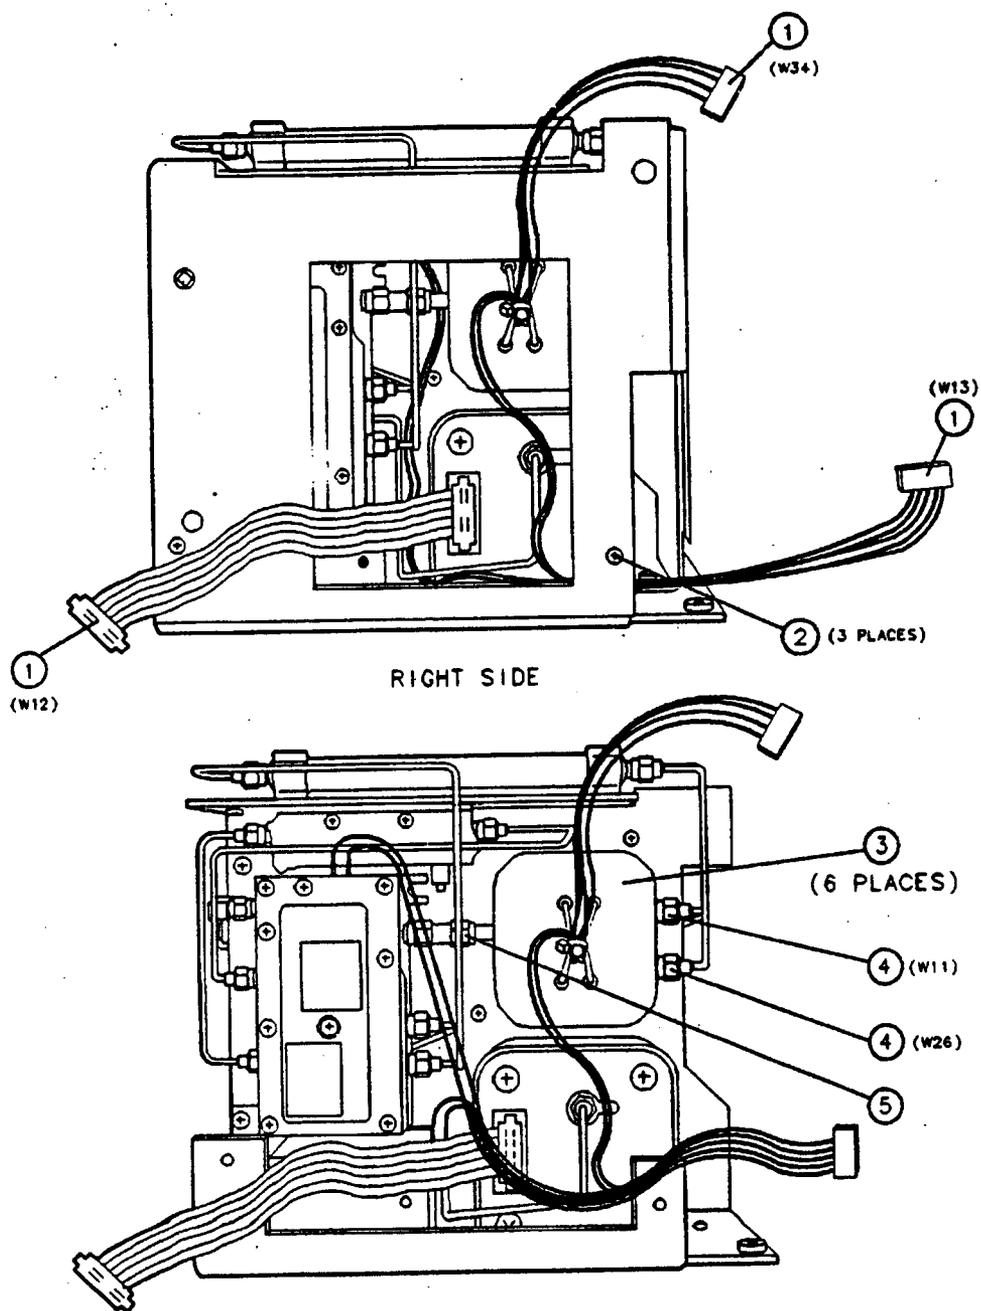

Figure 3-15. A3A2 Switched YTF Replacement
4. Note the cable dress of W12, W13, and W34 (1) that pass through the opening in the “D” bracket. See Figure 3-15. (This information is used later, during the YTF replacement procedure.)
2. Position the YTF and connect the A3A2J2 connector to the SMA adapter (5) without tightening. See Figure 3-15.
6. Tighten the SMA connector at A3A2J2 (5) to 10 inch-pounds using a 5/16 inch torque wrench.
7. Reconnect the W11 cable to A3A2J1 (4) and the W26 cable to A3A2J3 (4).
8. Replace the W13 and W34 wire harnesses (3) on the YTF using needle-nose pliers. Push each wire connector onto its recessed connector pin without bending. See Figure 3-15.
9. Pass W12, W13, and W34 (1) through the opening in the "D" bracket. See Figure 3-15.
10. Position the "D" bracket on the front-end assembly and replace the three screws (2) that hold it to the "A" bracket.
12. Reposition W12, W34, and W13 (1) as noted during the YTF removal procedure.